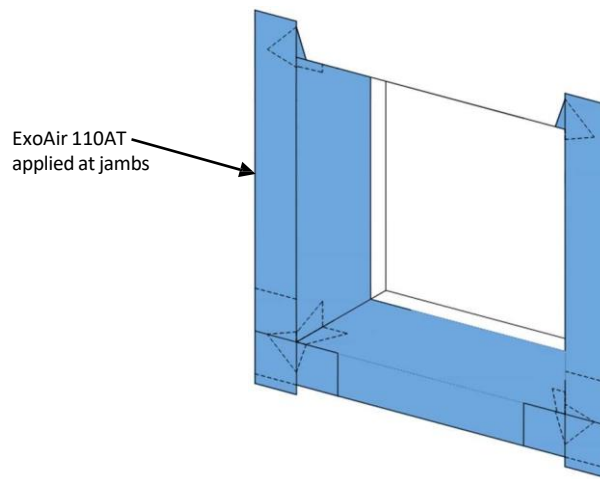

Fig. 15
- d. Install ExoAir 110AT onto the jambs 3" minimum into the rough opening and onto the exterior wall and extending 3" passed the rough opening on either side. – Figure 15.